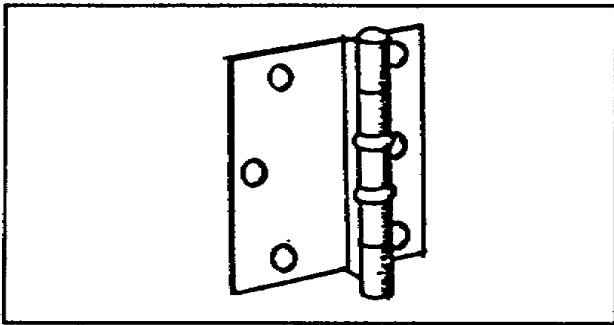

Figure 1-53. Full-surface hinge
b. Full-Surface. The full-surface hinge (Figure 1-53) is fastened directly to the door and jamb, and no mortise is required. Note that the edges of the full-mortise are beveled. The surface of the frame and door must be flush when full-surface hinges are used.